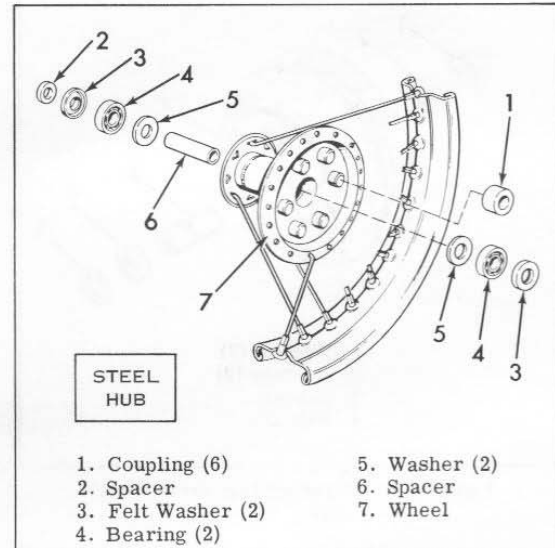

Figure 2.7. Disassembling Rear Wheel Hub-Steel
Remove six rubber couplings (1), Figure 2.7, from projections on wheel (7). Note that when separating rear wheel, some of these couplings may remain on hub projections and some in recesses in brake-sprocket assembly.